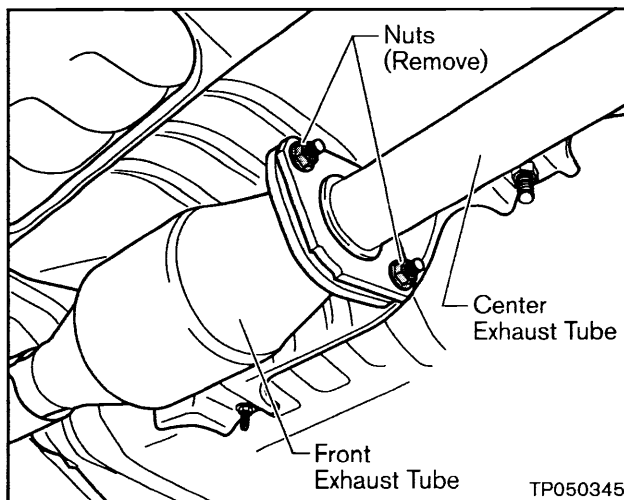

Figure 5a
- a. Remove two Nuts that secure the Center Exhaust Tube to the Front Exhaust Tube (see Figure 5a).